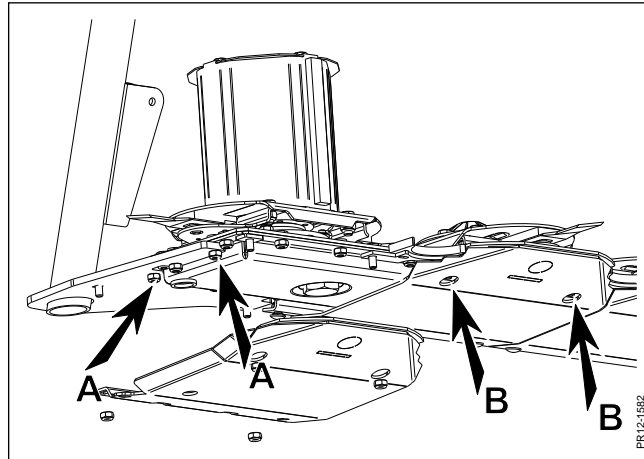

Fig. 5-4
**Fig. 5-4** To avoid damage caused by vibrations in the cutting unit, the cutter bar must be fastened correctly to the frame. In order to check this the outermost guide shoes must be dismantled. The nuts on the bolts, **A**, which go through both cutter bar and frame must be retightened.